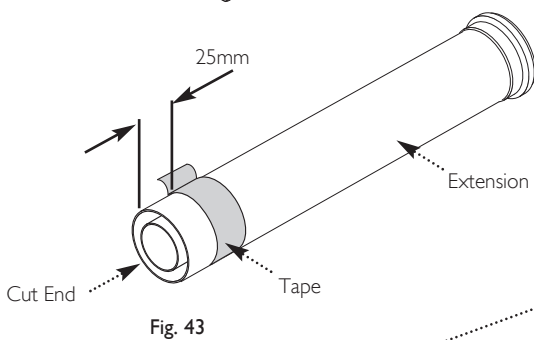

Fig. 43
16. Measure 25mm from the end of the flue extension and apply a length of tape around the outer duct (Fig. 43).